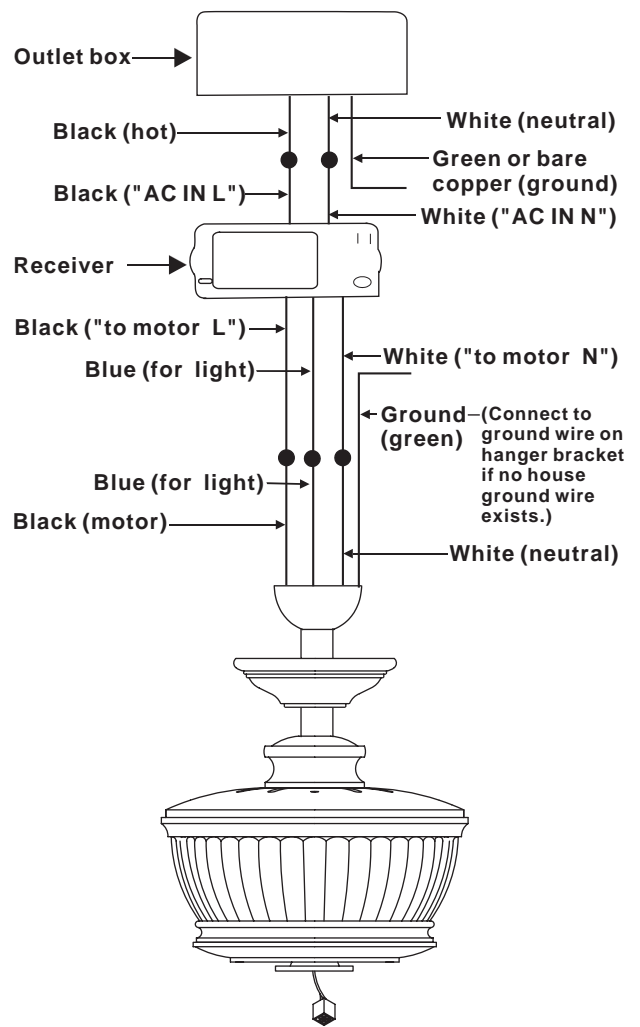

Figure 12
**Step 2.** (Fig. 12) Motor to Receiver Electrical Connections: Connect the black wire from the fan to black wire marked "TO MOTOR L". Connect the white wire from the fan to the white wire marked "TO MOTOR N" from the receiver. Connect the blue wire from the fan to the blue wire marked "For Light" from the receiver. Secure the wire connections with the plastic wire nuts provided.
**Step 3.** (Fig. 12) Receiver to House Supply Wires Electrical Connections: Connect the black (hot) wire from the ceiling to the black wire marked "AC in L" from the receiver. Connect the white (neutral) wire from the ceiling to the white wire marked "AC in N" from the Receiver. Secure the wire connections with the plastic wire nuts provided.
**Step 4.** (Fig. 12) If your outlet box has a ground wire (green or bare copper) connect it to the fan ground wires; otherwise connect the hanging bracket ground wire to the mounting bracket. Secure the wire connection with a plastic nut provided. After connecting the wires, spread them apart so that the green and white wires are on one side of the outlet box and black and blue wires are on the other side. Carefully tuck the wire connections up into the outlet box.